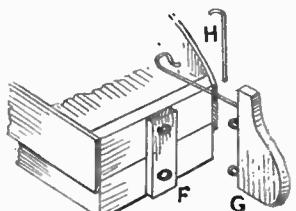

Fig. 4—Stern and rudder
There is a stern post next to be fixed, as (F) in Fig. 4. It should be 1½ ins. long, ½ in. wide and ¼ in. thick, glued and pinned firmly in place.